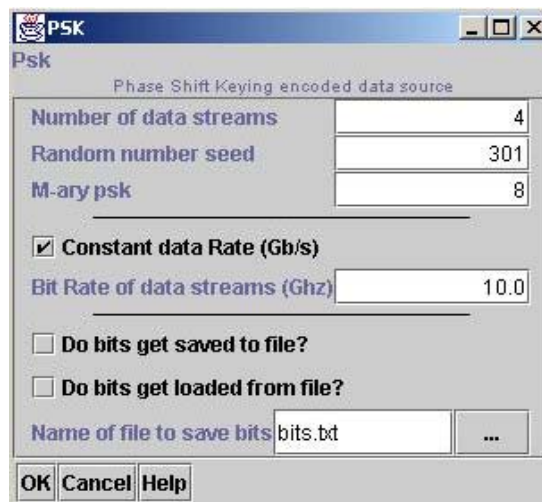

Figure 22 PSK Pulse Generator Parameter Box
- A Phase-Shift-Keying signal pulse generator. Its parameter box is shown in Figure 22.